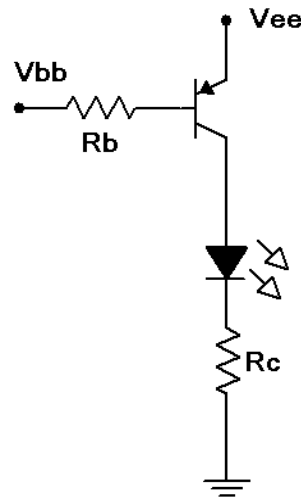

Figure 8.2
6. Consider the PNP saturating switch of Figure 8.2 using  $V_{CC} = V_{BB} = 5$  volts,  $R_b = 4.7$  k and  $R_c = 220$ . Calculate the base and collector currents and record them in the first row of Table 8.3 (Theory). As the circuit is in saturation, the theoretical  $V_{CE}$  is close to zero and may be found on the transistor data sheet via the  $V_{CE}/I_C$  saturation graph. Record this value in the first row of Table 8.3 as well.
7. Build the saturating switch of Figure 8.2 using  $V_{CC} = V_{BB} = 5$  volts,  $R_b = 4.7$  k and  $R_c = 220$ . Measure and record the base and collector currents, and record the collector-emitter voltage in the first row of Table 8.3 (Experimental). Also compute and record the deviations between theory and experimental results.